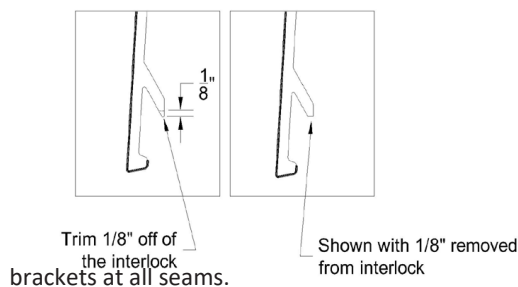

Figure 9
- Trim 1/8" off of the interlock located on the back of the last plank. For gables, where it can be especially tight, cut off the ends of the interlock diagonally. Face nail the last piece of siding with a color matched fastener or trim nail. This is the only instance when you should fasten through an Everlast plank (Figure 9).